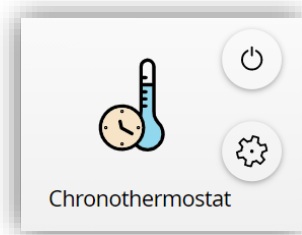

Figure 108. Chronothermostat box
- **Enablement** [0 = Disable; 1 = Enable / 0 = Enable; 1 = Disable]: selects the polarity of the control object "[Ci] Chronothermostat: Enable", which will enable or disable the chronothermostat analogously as from the on-screen switch button of the box (see Figure 108). The box configured as a chronothermostat control looks as follows: